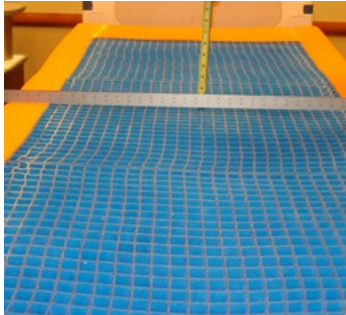

Figure 4 – Position straight edge
5. Place a straight edge (at least 35" (88.9 cm) long) across the gel from left to right at the sacral region (patient seat section) of the support surface (Figure 4).